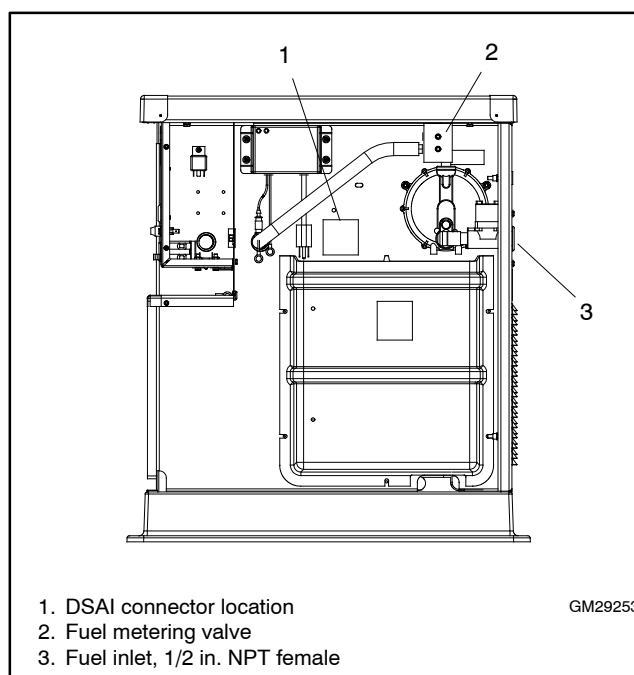
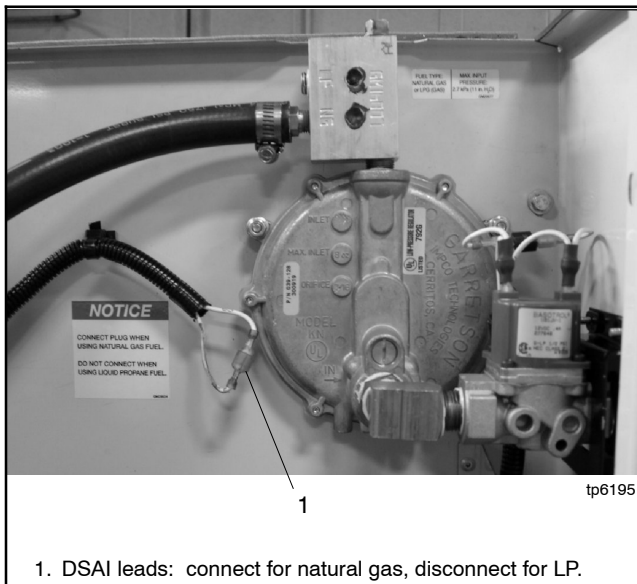

Figure 6-37 Generator Set Fuel System Location, Air Inlet Side
Figure 6-38 Digital Spark Advance Ignition Leads (12kW only) (located in generator set air intake area)
Use the following procedure to convert from natural gas to LP vapor. See Figure 6-37 for the fuel system component locations.
10. For 12 kW models only: Connect the digital spark-advance ignition (DSAI) leads together for natural gas. (Disconnect the leads for LP.) See Figure 6-38.
To convert from LP vapor to natural gas, follow the same fuel conversion procedure, moving the hose fitting to the natural gas port and plugging the LP port. For the 12kW model, disconnect the DSAI leads for LP vapor. See Figure 6-38.
The digital spark advance ignition (DSAI) on 12 kW models optimizes the engine timing for the selected fuel, natural gas or LP. The location of the DSAI leads is shown in Figure 6-37. Connect the DSAI leads in the air intake compartment together for natural gas fuel. Disconnect the leads if LP is used. See Figure 6-38.
The fuel metering valves are sealed to prevent field adjustments. If the fuel metering valve requires adjustment, do not break the seals on the fuel metering valve. Obtain a new fuel metering valve from the manufacturer and replace the sealed valve with the new part. See Figure 6-37 for the fuel metering valve location. Refer to the generator set Parts Catalog for the fuel metering valve part number.